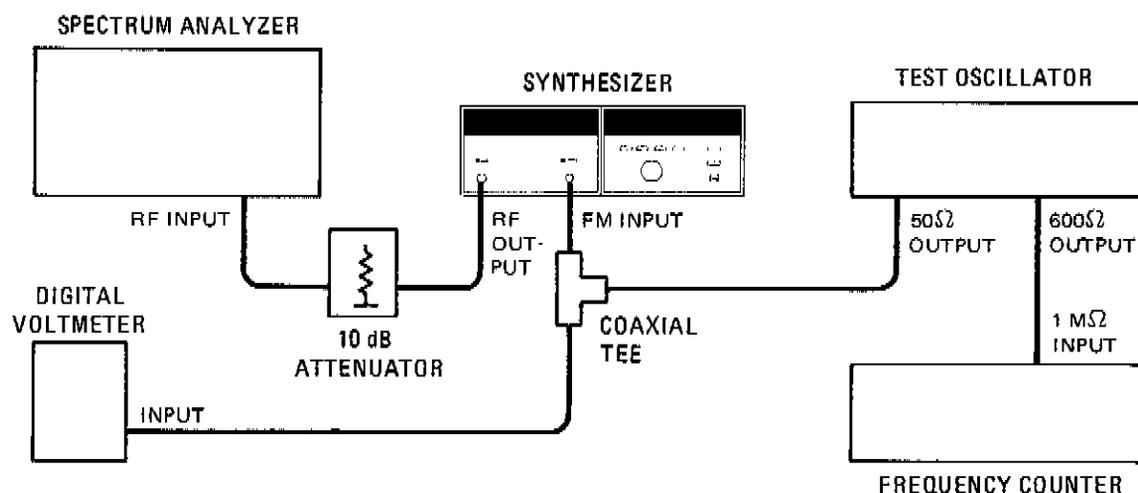

Figure 5-13. FM Sensitivity Adjustment Test Setup
2. Connect the equipment as shown in Figure 5-13.